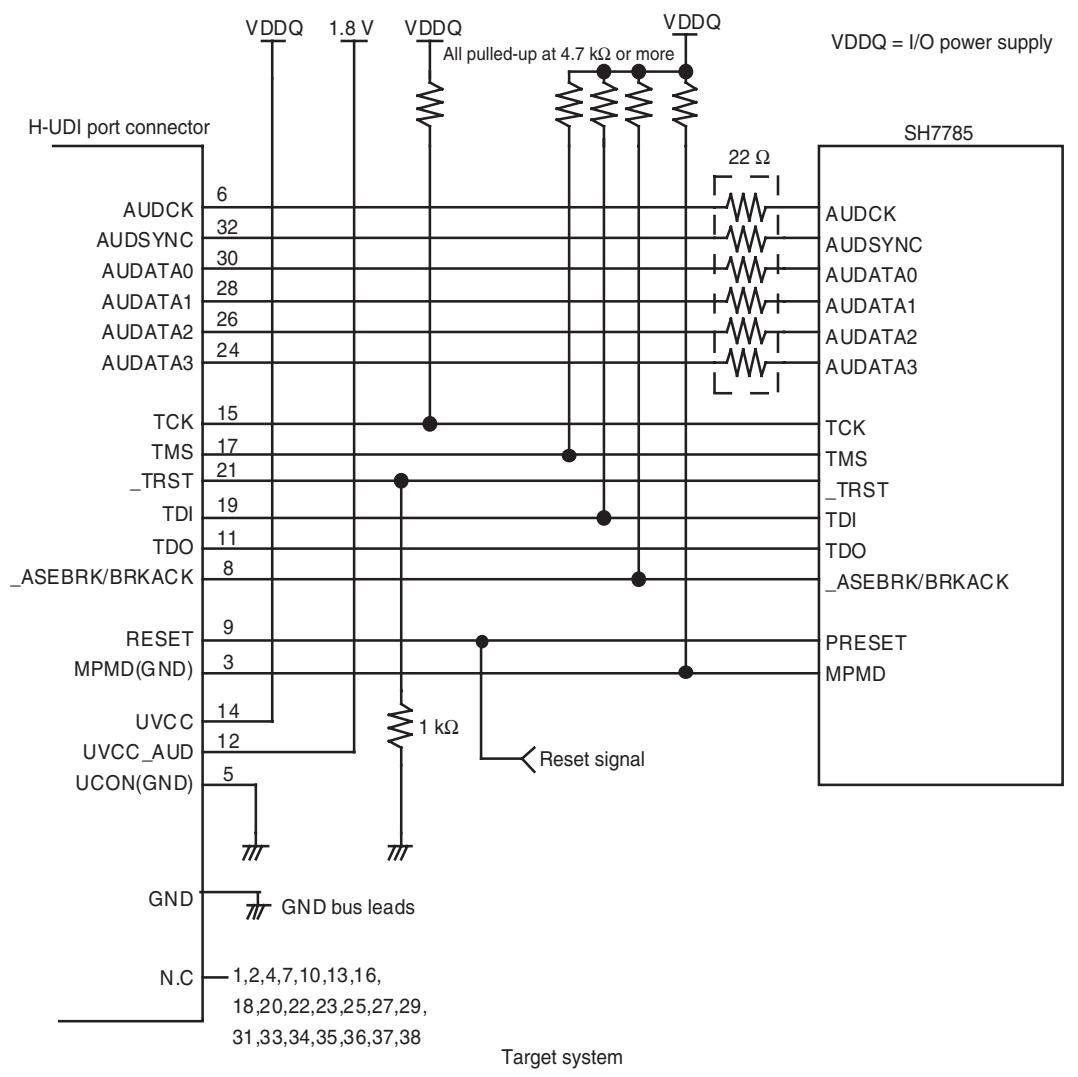

Figure 1.2 Recommended Circuit for Connection between the H-UDI Port Connector and MPU when the SH7785 E200F Emulator is in Use (38-Pin Type)
Figure 1.2 shows a recommended circuit for connection between the H-UDI port connector (38 pins) and the MPU when the emulator is in use.
- (1) When the emulator is used: MPMD = 0
- (2) When the emulator is not used: MPMD = 1
- Figure 1.2 shows an example of circuits that allow the MPMD pin to be GND (0) whenever the emulator is connected by using the user system interface cable.
8. The resistance value shown in figure 1.2 is for reference.